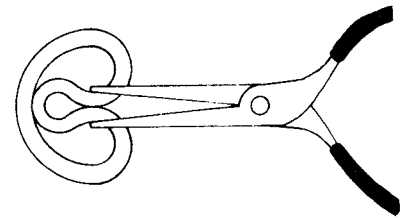

Figure G-5. Rod Seal Installation
6. Position the head with the rod wiper pocket up. Grasp the dynamic rod seal (No. 3) with the needle-nose pliers (Figure G-5).